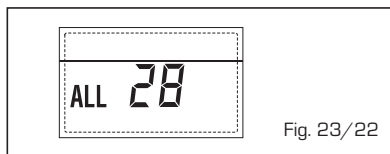

Fig. 23/22
**- ANOMALIA NÚMERO DE PLAQUETAS CONNECTED "ALL 29" (fig. 23/23)**